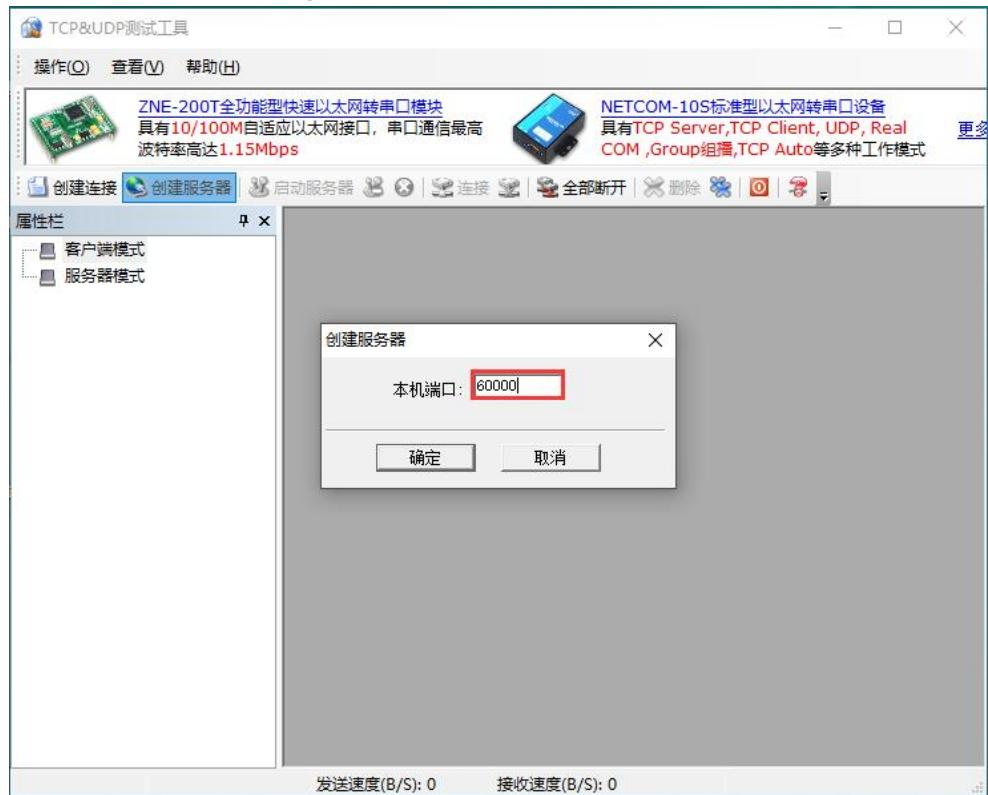

Figure 5-4 Network parameter setting interface
- (2) Open "TCP & UDP Test Tool" on the computer AA, select Create Server, and set the local port number to 60000. As shown in Figure 5-4, then click Create.